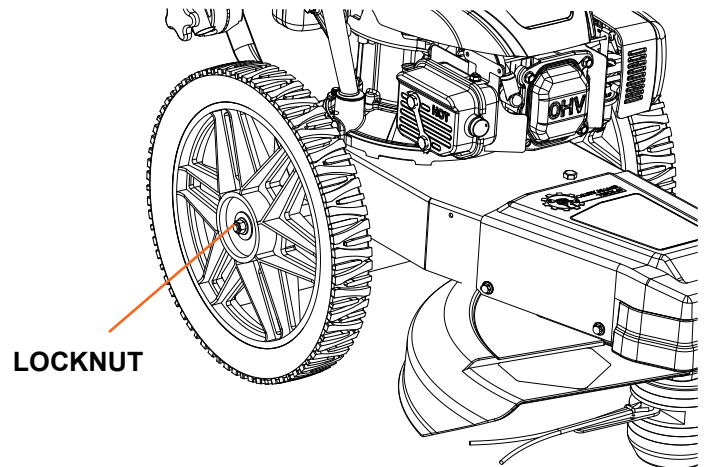

Figure 17
2. Loosen and remove the locknut (Figure 17).